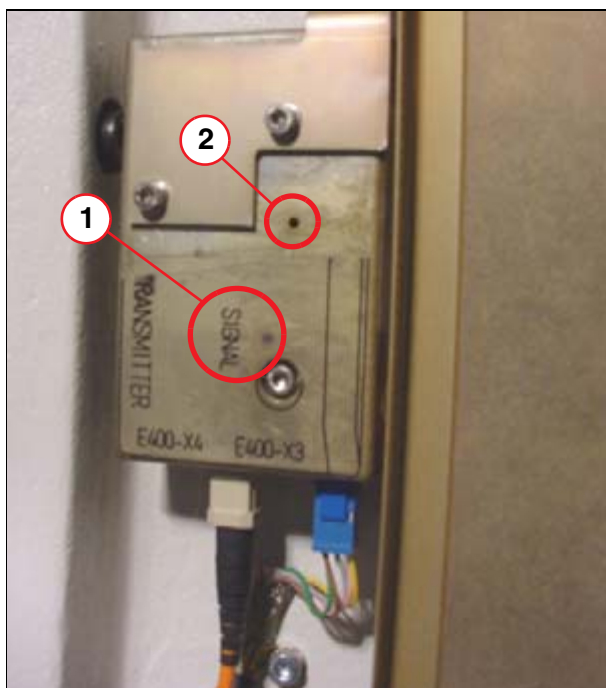

Fig. 64: Slip ring transmitter
- Check the **Signal detect** LED at the slip ring transmitter module (yellow LED) \(1/ Fig. 64 / p. 92\)
- Check the Signal Detect LED at the transmitter module (1/Fig. 64 / p. 92).